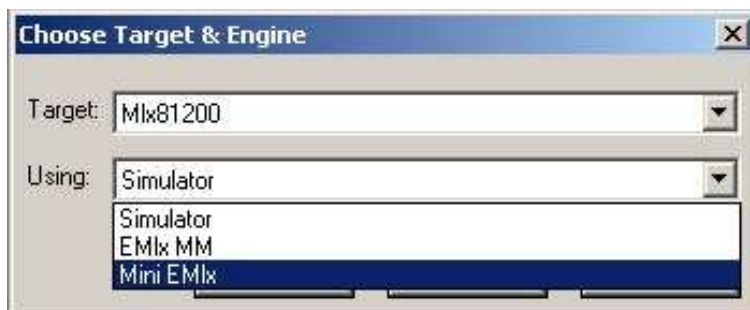

Fig. 9 Interactive Debugger: Selecting Simulator or Emulator mode
- Select target 'Mlx81200' and 'Simulator' from 'Tools' -> 'Target & Engine' menus as shown in Fig. 9
- Select target 'Mlx81200' and 'Mini EMlx' from 'Tools' 'Target&Engine' menus as shown in Fig. 9